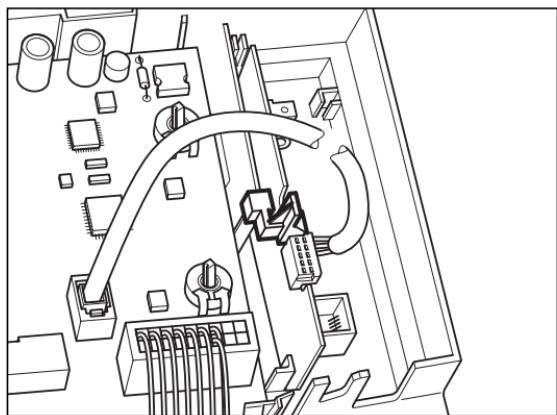

Fig. 4.3 Fastening the board with clip 1
- Push the board (1) with the clip into the recess (2) in the switch box.
- Push the bus line (3) with the edge connector (4) against the vrnetDIALOG circuit board.
- Plug the other terminal of the bus line into the slot (5) on the circuit board of the heating appliance.
- Install the circuit board in the switch box as shown in fig. 4.3 to 4.5.